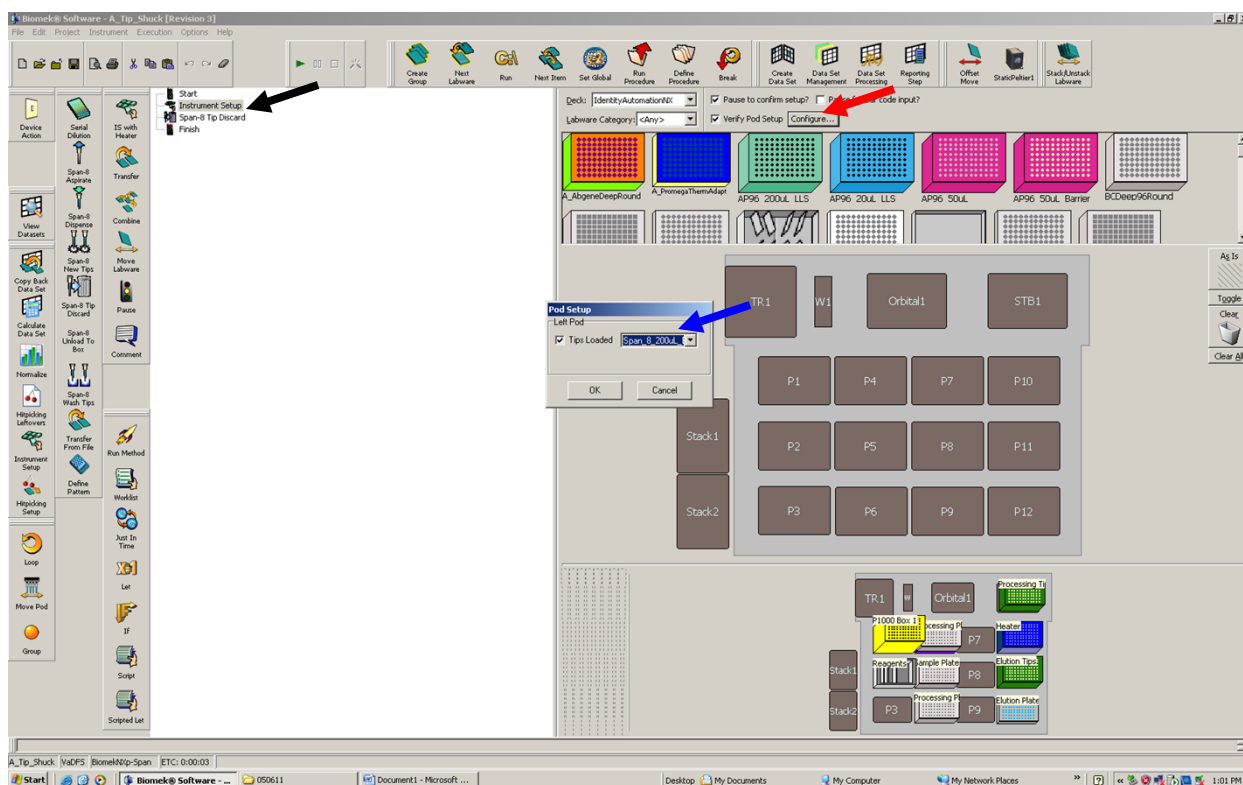

Figure 5. Shows the steps involved in selecting the tip type for the A_Tip_Shuck method.
1.2.2.1 Click on the “Instrument Setup” line of the method (shown in Figure 5, black arrow).
1.2.2.2 Press the “Configure” button (shown in Figure 5, red arrow).
1.2.2.3 Select the appropriate tip type from the pull down menu (shown in Figure 5, blue arrow).